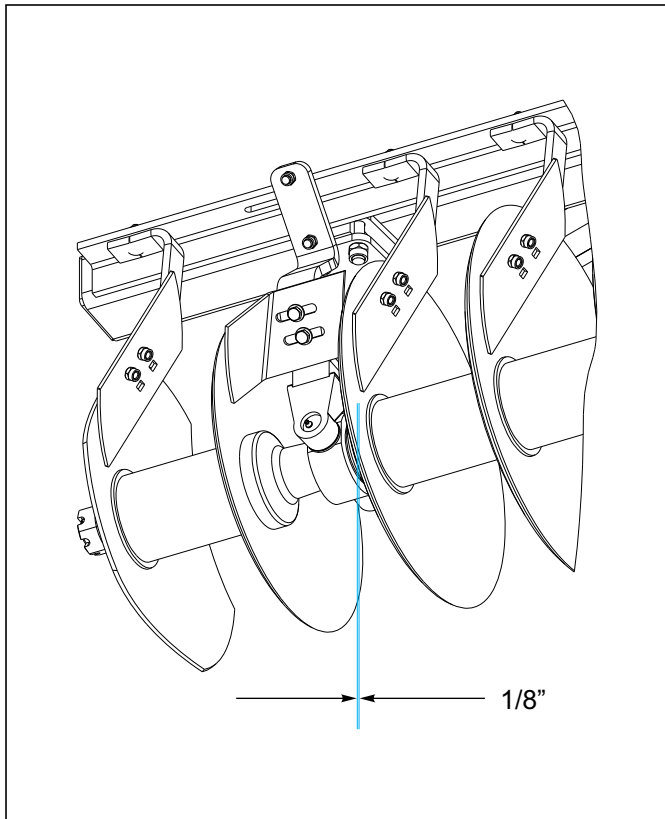

Figure 4-11: Scraper Adjustment
1. Rigid scrapers should be set initially as close to the disc blade as possible without rubbing approximately 1/8" (See Figure 4-11.) A slotted hole at the top of each scraper is provided for individual adjustment. Adjustments may be made for entire gangs, by loosening the u-bolts around the angle-iron scraper bars and sliding the whole bar. Scraper arms are made of spring steel. In wet conditions, the scraper may be set against the disc blade and will function as a spring-loaded scraper.